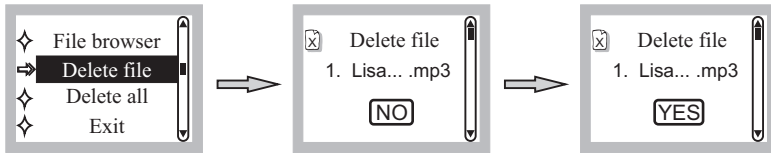

Fig. 26
- (2) Delete File: Press to enter the “Delete file” screen. Press or to select “NO” or “YES”. Press to confirm, Fig. 26.